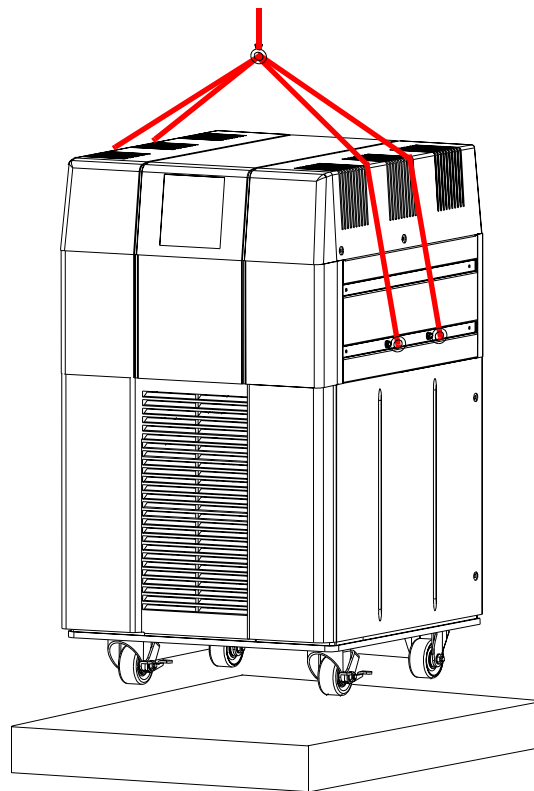

Figure 3-2: Attaching Eye Bolts and Lifting Slings to the 9700A Compressor
6. Install the four customer supplied 3/8 inch x 16 eye bolts into the holes on each side of the 9700A Compressor as shown in Figure 3-2.
7. Attach one (1) lifting sling (minimum 48 inches in length) to each eye bolt as shown in Figure 3-2.